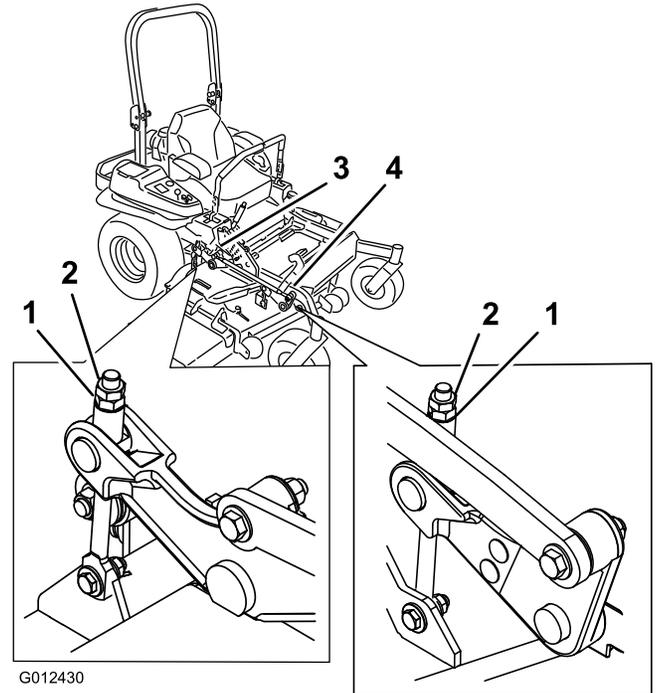

Figure 89
- 10. Fine-tune the adjustment nut on the front deck lift assembly by turning it (Figure 89).
16. Fine-tune the adjustment nut on the front deck lift assembly by turning it (Figure 89).